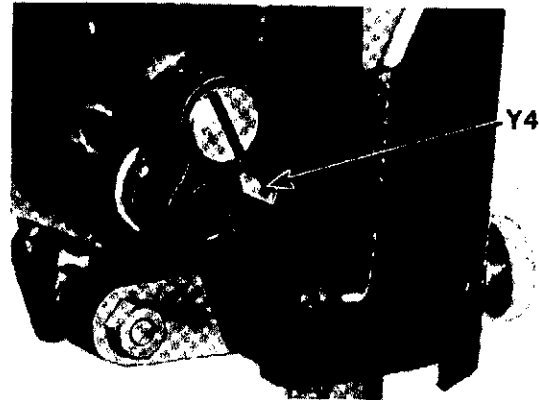

Fig. 258A. To Replace Needle Bar Connecting Link
- (b) Loosen pinch screw **Y4**, **Fig. 258A** and disconnect fork.